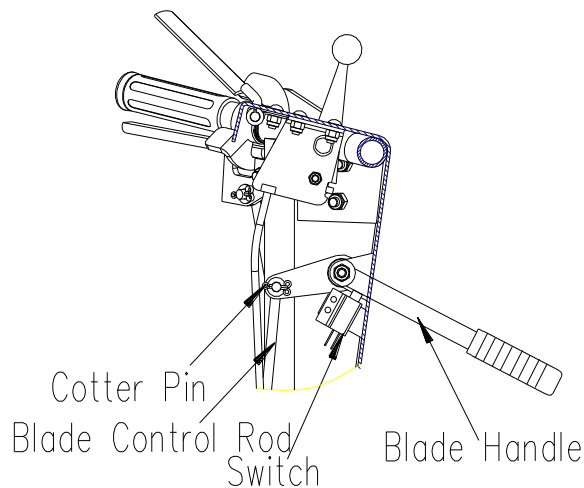

FIG 15
- Blade handle should be in the engage position. Handle should compress pressure switch at least 5mm, if not rod length should be adjusted. To change rod length, remove cotter pin from upper Blade Control Rod Assembly. Remove rod from lever bracket hole. Rotate rod until desired length is achieved to cause switch to compress correctly. Reinstall rod into lever bracket hole and add cotter pin. (See FIG 15)